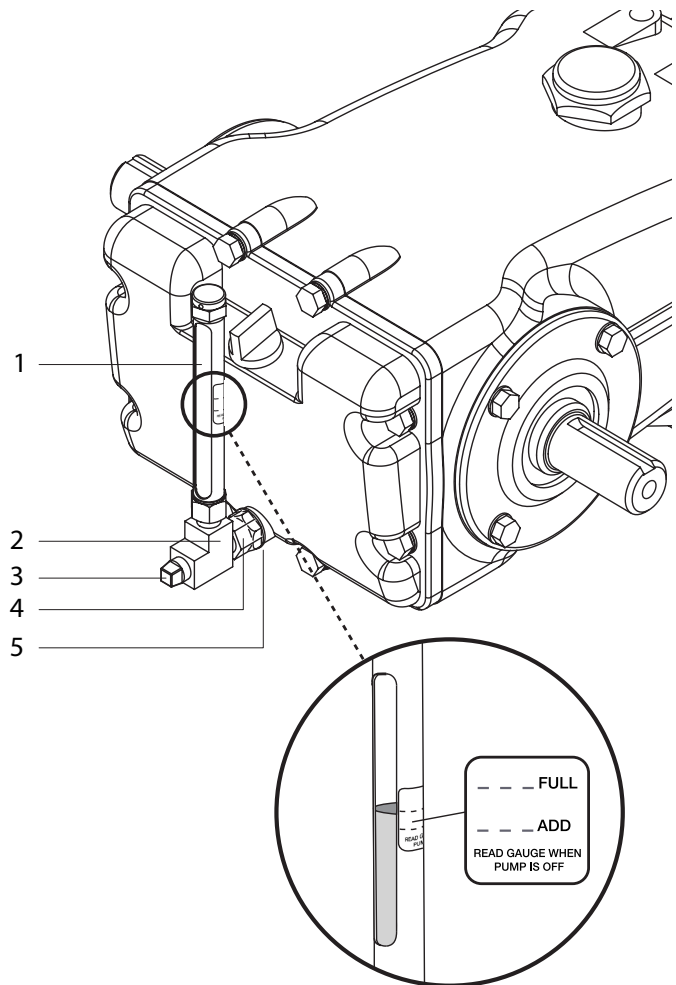

Figure 1
3. Install 1/4" BSP fitting (Figure1, item 4) with o-ring (5) into rear cover of pump.
4. Thread in tee (2) to fitting (4).
5. Thread in square end plug (3) into tee (2).
6. Thread in crankcase oil level indicator (1) into open port of vertical leg of tee (2).
1. Ensure square end plug (3) is installed at end of tee (2).
3. Fill pump to capacity as stated in pump data sheet. Add an additional .25 oz of oil to fill crankcase oil level indicator (1) to center of indicator.
5. Position silver label on crankcase oil level indicator (1) so that the "FULL" line is level with the oil when pump is not running (Figure 1).
**NOTE:** Wipe indicator (1) with mild solvent to remove oil residue before applying label.
1. Ensure square end plug (5) is installed in union fitting (6)
3. Fill pump to capacity as stated in pump data sheet. Add an additional 2 oz. of oil to fill crankcase oil level indicator (1) and drain hose (8) to center of indicator.
5. Position silver label on crankcase oil level indicator (1) so that the "FULL" line is level with the oil when pump is not running (See Fig. 1)